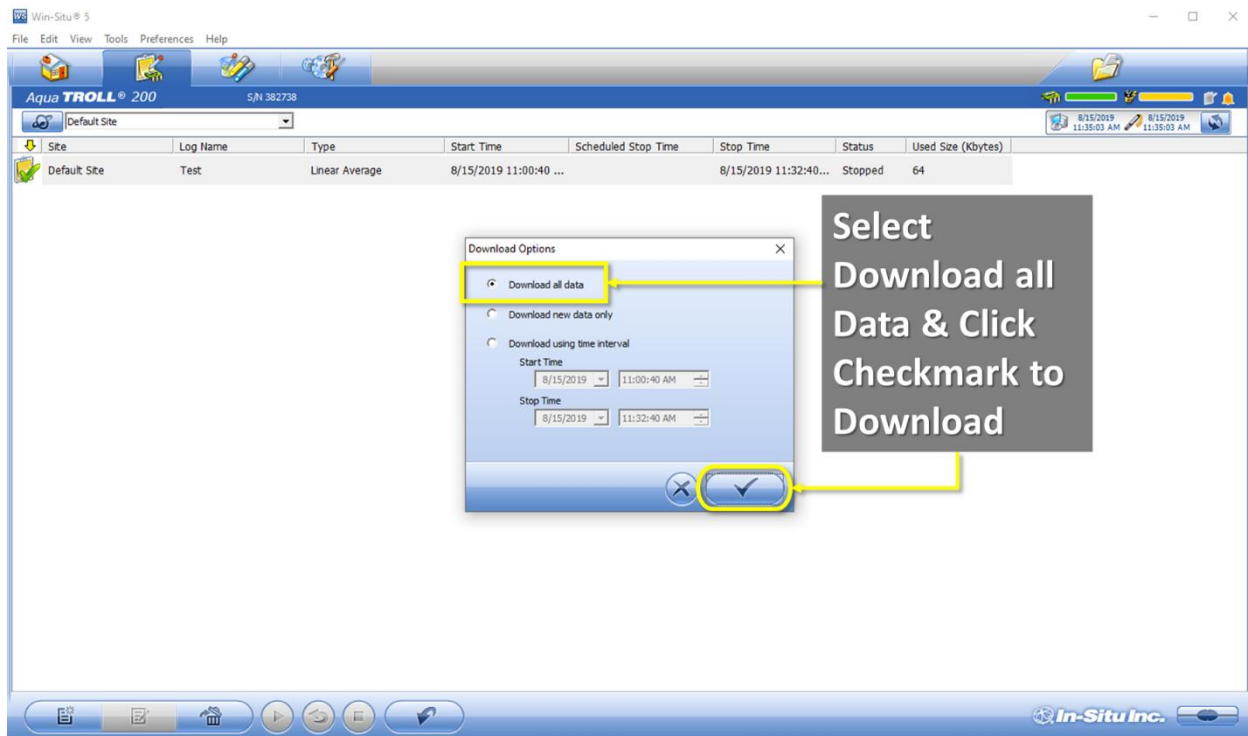

Figure 26. Select "Download all data" and Click on the Checkmark to Initiate Download
2. When the Download Options window appears, select “**Download all data**” and click on the checkmark to initiate the download (Figure 26).